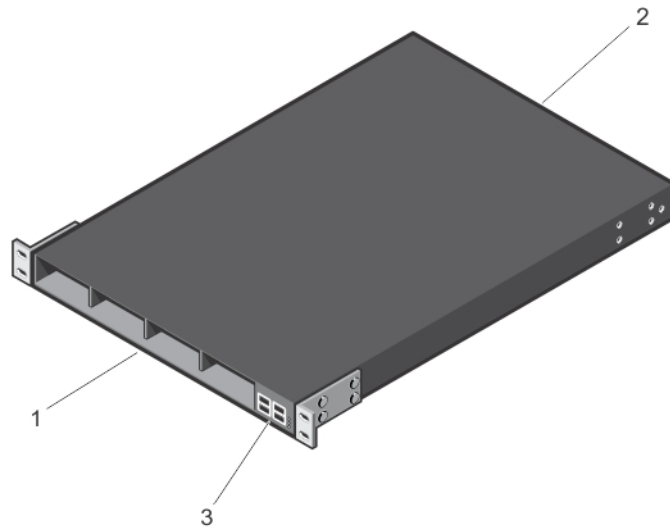
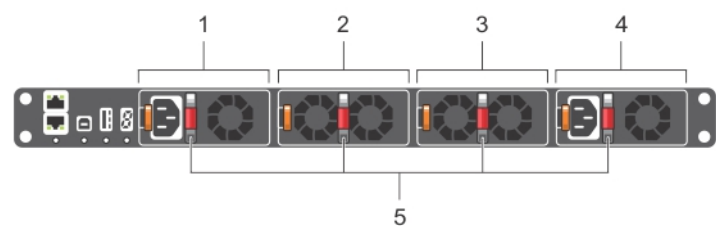

Figure 1. S5000 I/O and Utility Panels
Figure 3. S5000 Power Supplies and Fan Modules
- Identify the I/O and Utility panel on the chassis. The I/O panel has four fixed 40GbE ports on the right side of the panel, refer to Figure 1. The Utility panel has the power supply slots, LEDs, and USB slots on the left side of the panel, refer to Figure 3.
- Identify slots 0, 1, 2, and 3 on the Utility panel, refer to Figure 3. You can insert Power supply units (PSUs) only in slots 0 and 3. You can insert the Fan modules in any of the slots.